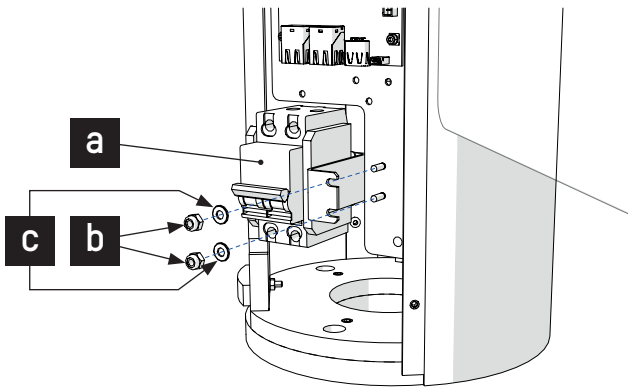

Fig. 26 - Motor replacement (Circuit breaker assembly)
8. Install the screen, taking care to do so in the correct direction, (⇒ Fig. 26) and secure it with the screws and washers that were removed in point 4.
3. Remove the fasteners, nuts (**b**) and washers (**c**), from the circuit breaker assembly (**a**) to loosen the assembled parts (Fig. 26);